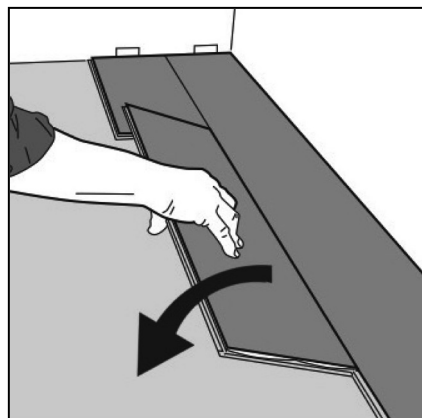

Figure 52 Second plank, second row
- > Gently place the plank close to the short end of the previous one (Fig 52 overleaf) and fold it down in a single action movement ensuring the corner of the long and short sides connect into the corresponding profiles of the short edge of the first plank second row; and the long edge lower profile of the corresponding plank in the previous row respectively.